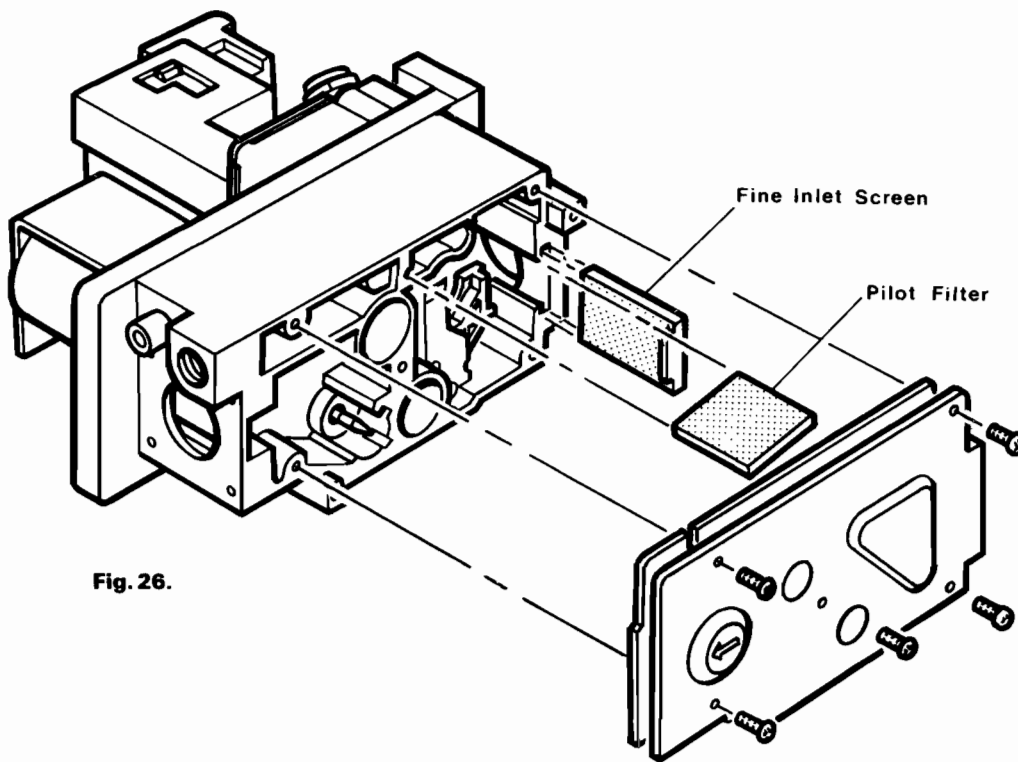

Fig. 26.
- (b) If necessary clean the inlet screen and the pilot filter by removing the cover plate on the rear of the Honeywell gas control valve (Fig. 26).